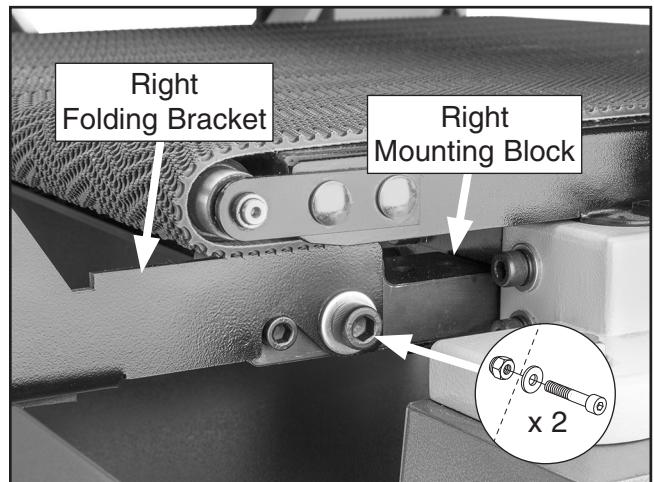

Figure 24. Right table folding bracket installed.
23. Attach (2) right table folding brackets to right mounting blocks as shown in **Figure 24** with (2) M10-1.5 x 65 shoulder screws, 10mm flat washer, and M10-1.5 lock nut.